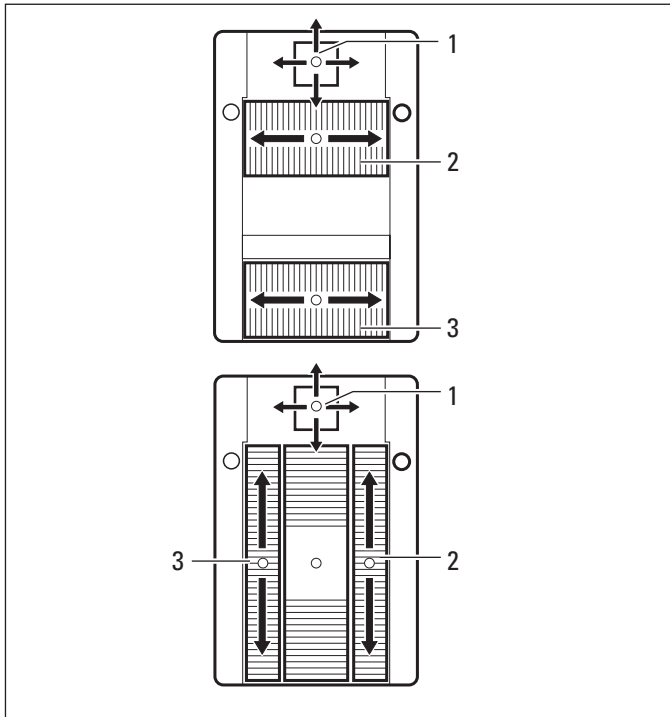

Fig. 1
⇒ Press the zoom (3), focus (2) and XY-unit (1) functions at the hand-/footswitches (see the Leica M620 surgical microscope user manual) (Fig. 1).